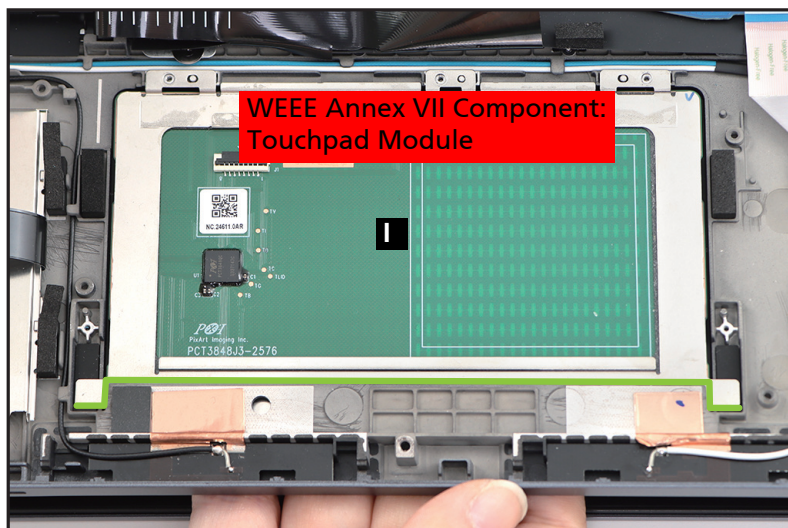

Figure 1-63. Touchpad Module Removal
- Slide the touchpad module (I) slightly to disengage it from the bottom latches (highlighted with the green line) (Figure 1-63). Then remove the touchpad module.